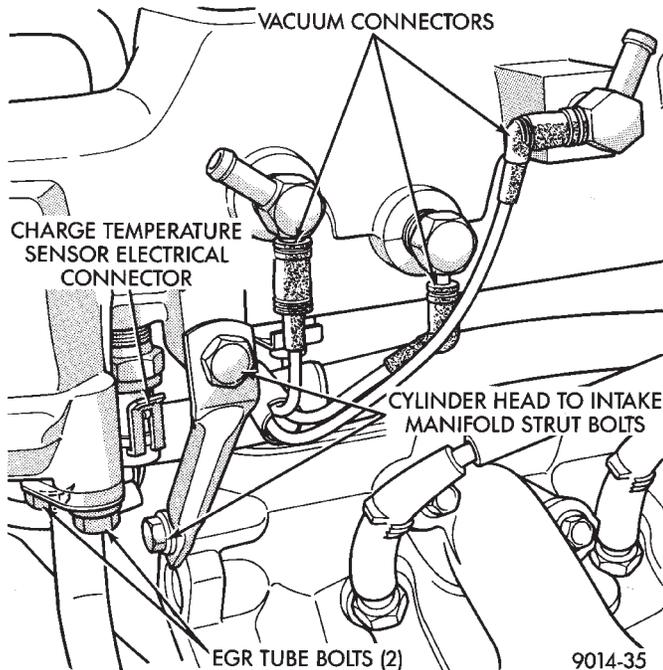

Fig. 5 Electrical and Vacuum Connections To Intake Manifold
- (7) Remove PCV and brake booster hoses from air intake plenum (Fig. 5).
- (8) Remove EGR tube flange from intake plenum (Fig. 5).
- (9) Disconnect Charge Temperature Sensor electrical connector. Remove vacuum harness connectors from Intake Plenum (Fig. 5).
- (10) Remove cylinder head to intake plenum strut (Fig. 5).